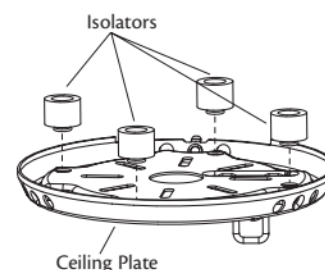

Figure 9 - Inserting the isolators into the ceiling plate
3. Your fan comes with four neoprene noise isolators. Position the isolators between the ceiling plate and ceiling by inserting the raised areas on each isolator into the holes in the ceiling plate. Refer to Figure 9.